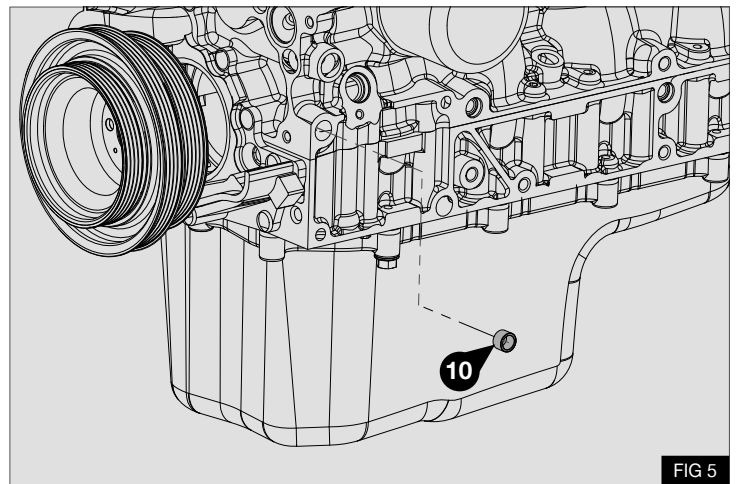

FIG 5
1. Insert the location dowel (10) into the point shown on engine - Fig 5